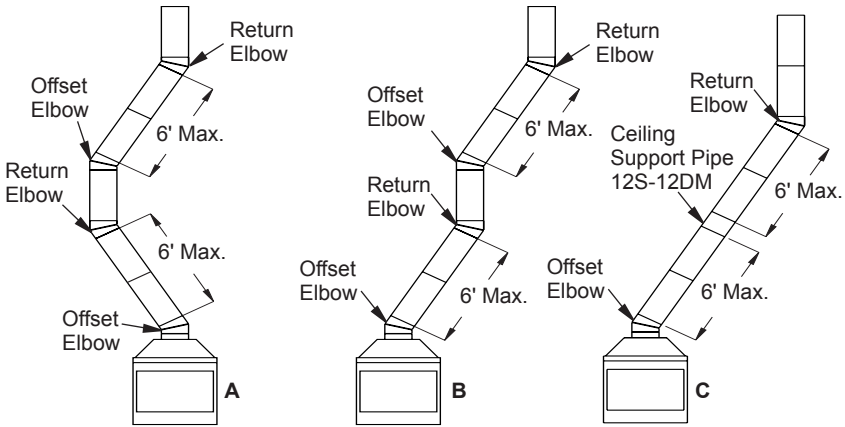

Figure 12 - Typical Offset Terminations
- Maximum length of pipe between supports (return elbow or 12S-12DM) is 6' of angle run. Maximum of two 6' angle run sections per chimney system (see Figure 12, page 10).